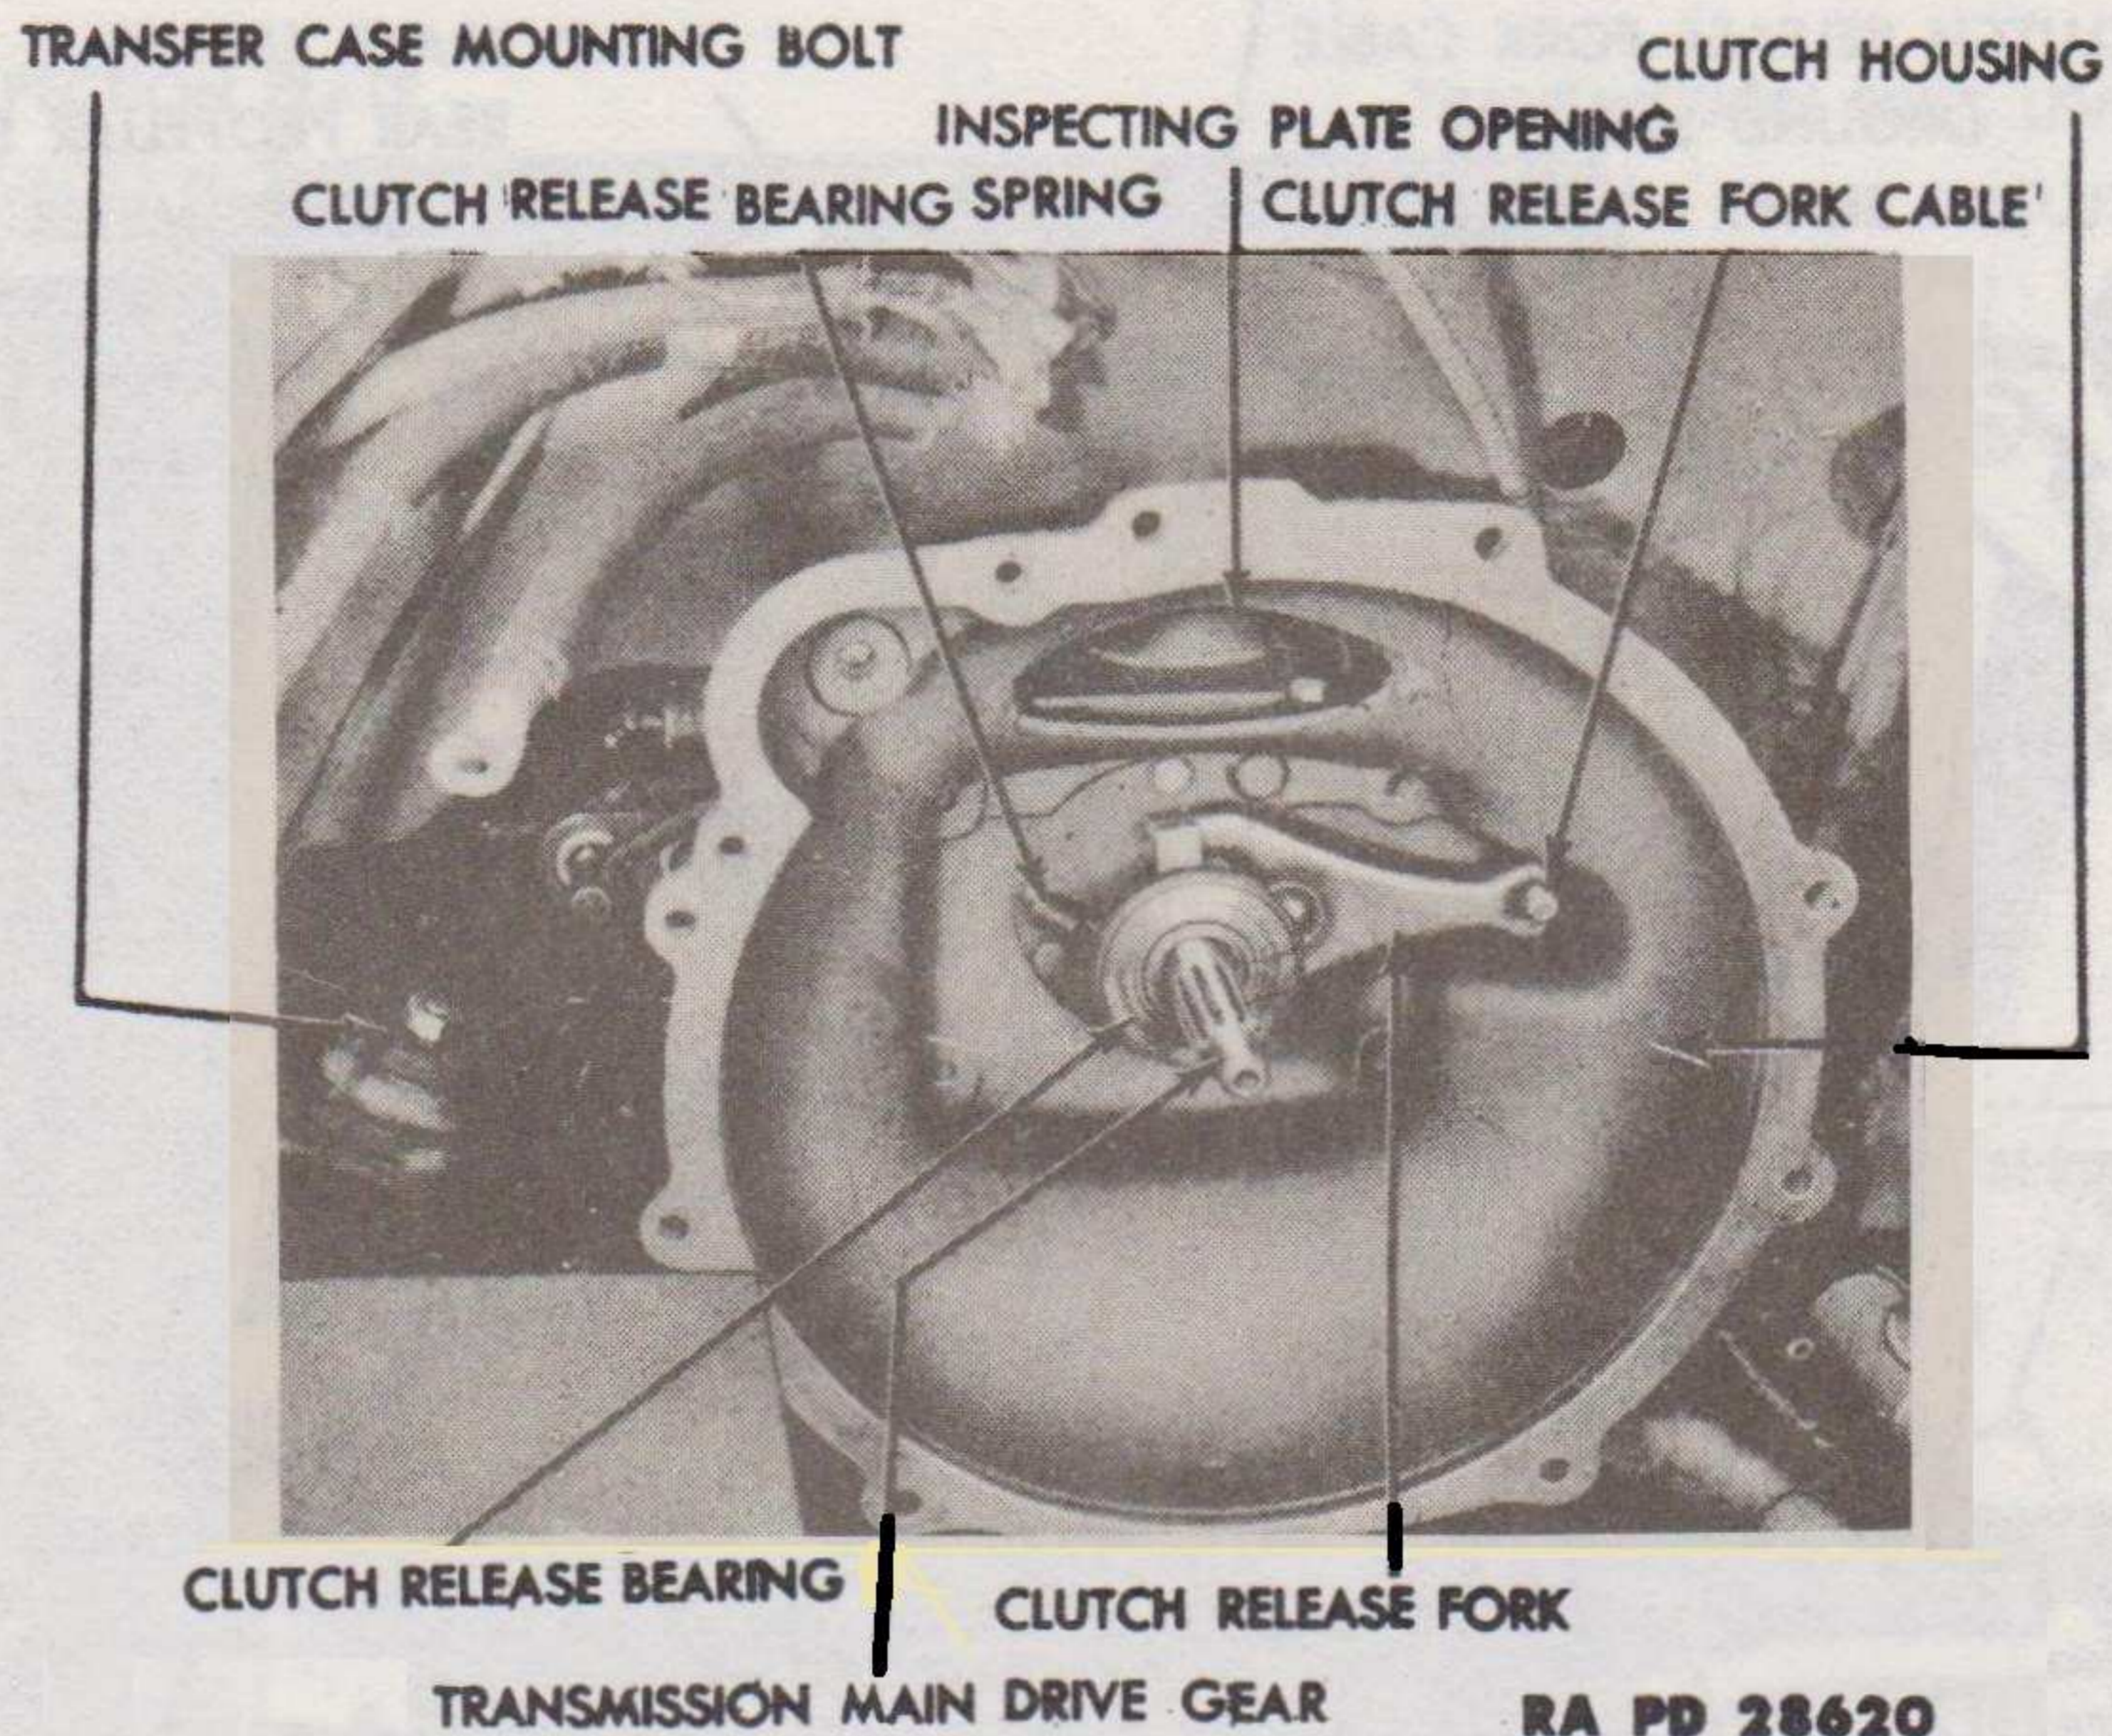

Figure 7 — Clutch Release Fork
g. **Remove Clutch Release Fork** (fig. 7). Working through the inspection plate opening on the clutch housing, remove the clutch cable from the clutch release fork, and remove the clutch release fork from the clutch housing.